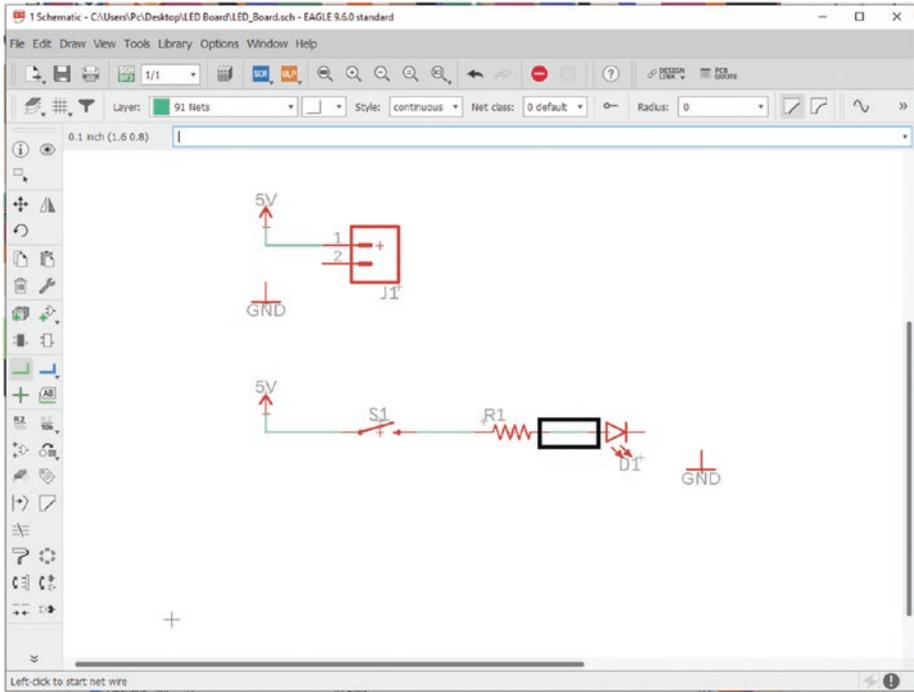

Figure 5-46. Connect the left side of R1 to the right side of D1
- 34. Connect the right side of the resistor symbol to the anode (left side) of the LED symbol. See Figure 5-46.